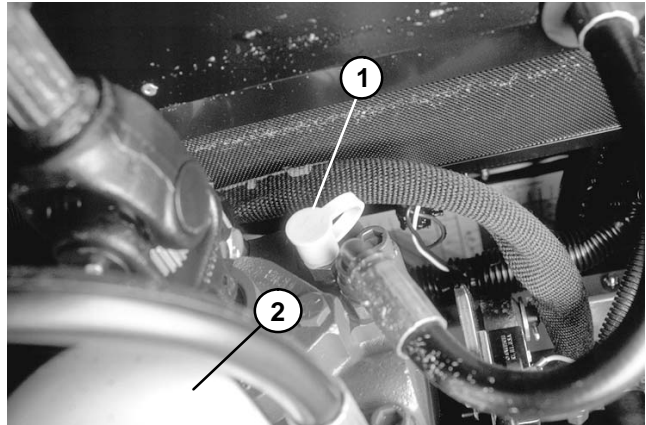

Figure 14
3. Connect a 1000 PSI (70 Bar) gauge onto charge pressure test port (Fig. 14).